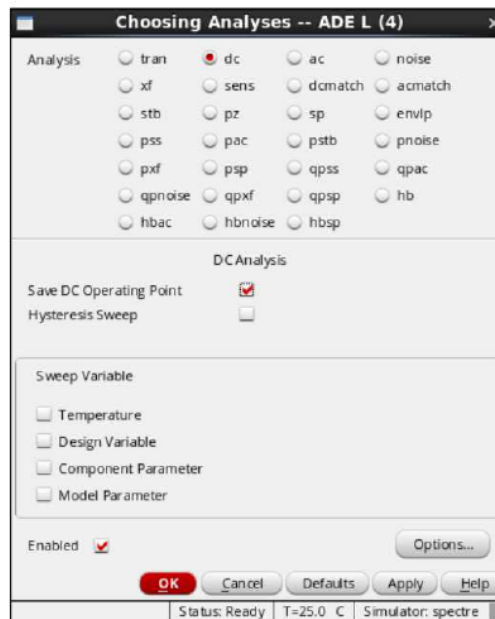

Figure 4. Setup dc analysis with saving DC Operating point option
- Setup dc analysis with save DC Operating point option as **Figure 4**.